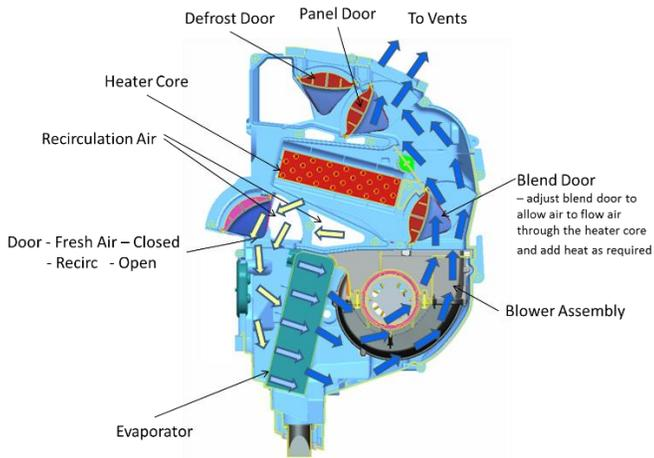

Figure 3: Max A/C. Recirculation Mode, Panel
*Figure 3* illustrates the system airflow when operating in the **PANEL A/C mode** with recirculate button pressed. In this mode, the fresh/recirculated air door is in the recirculated position. Recirculated air (REC), from the cab, enters the HVAC unit through the recirculation filters, located on each side of the HVAC unit. The air is pulled by the blower assembly through the evaporator core and is pushed through the rest of the HVAC unit. The temperature blend air door diverts air around the heater core for full A/C operation. Although the temperature control is operational while in the A/C modes, the temperature control is generally set to direct all the air around the heater core. The air proceeds to the mode door area which directs all the air to the panel vents.